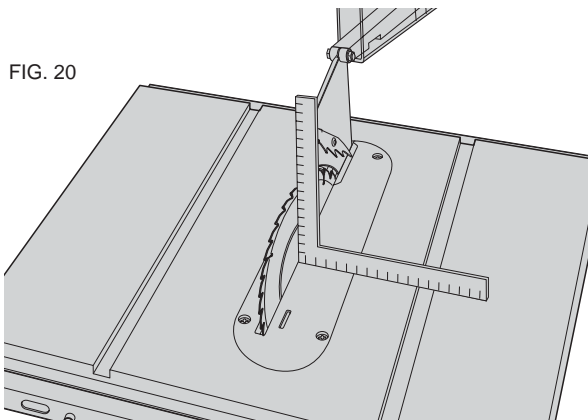

FIG. 20
3. Place a square flat against the table top and against the blade between teeth, as shown in Figure 20. Ensure the bevel lock lever is in its unlocked, or up, position.